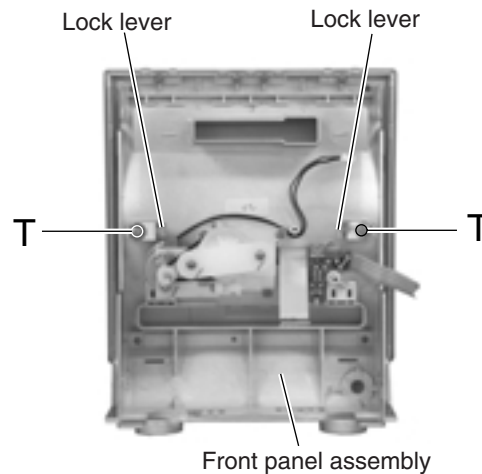

Fig.29
■ Removing the LCD section (See Fig.29 to 31)